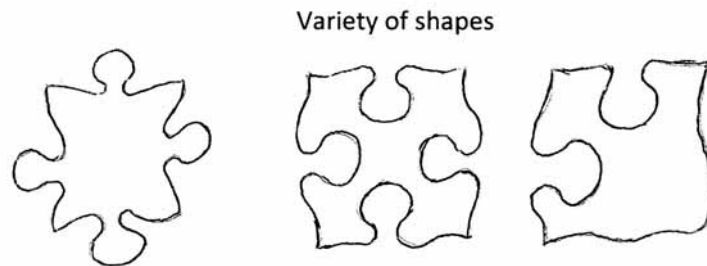

Figure 2
- b. **Remember that you have to have a knob, or recess, on each side of each piece**, except for edge pieces, which have three sides interlocking; and corners, which have two. This latter fact means that the *edge squares can be slightly smaller*. For example: a 300 x 200mm picture could be cut into seventy pieces. Ten 30mm wide vertical strips are cut; to divide the 200mm height into seven pieces, however, would require five 30mm and two 25mm pieces, the 25mm pieces forming the top and bottom of each strip. **NB:** The pieces are only **based on** these squares. If all the pieces were of a similar square shape, you would have a very uninteresting puzzle. Variety of shapes is one of the clues to help solve the puzzle (see Fig. 2 below).